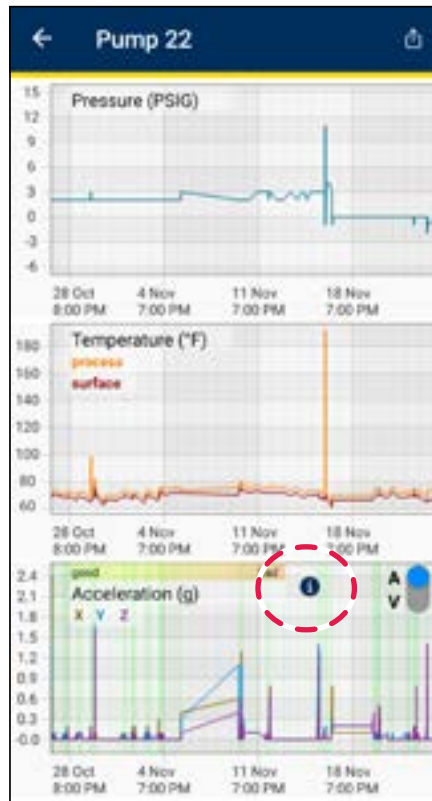

Figure 19
- Select the blue information icon (see figure 19).